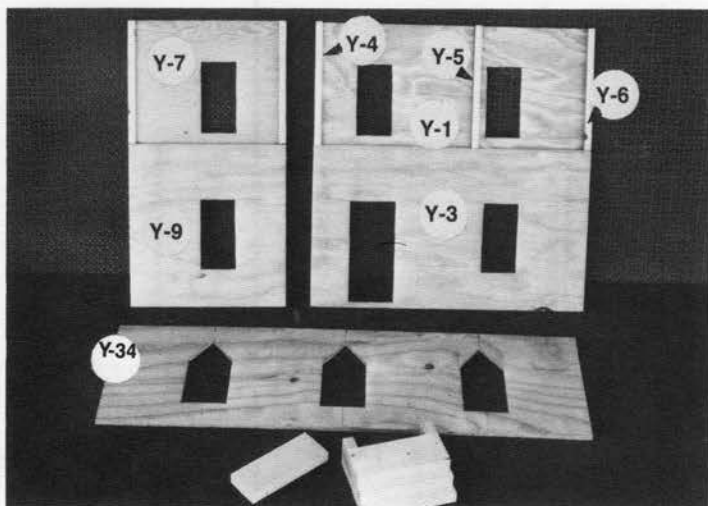

Fig. 3
STEP 3: Install panel Y-3 onto Y-2 flush at the top of Y-2, in similar fashion install Y-9 onto Y-8. Now take (from the basic house parts), roof panel number 34 and cut the holes for the dormer windows as per cutting lay-out. This panel from now on will be named Y-34. (FIGURE 3).